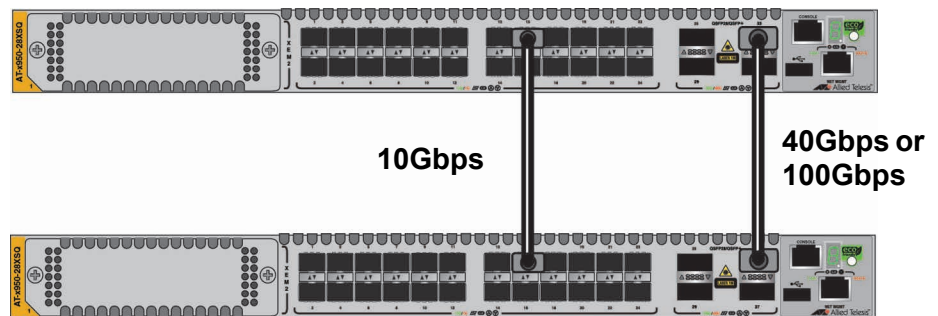

Figure 46. Unsupported Trunk with Different Port Speeds
- ❑ Trunk links must be the same speed. The example in Figure 46 is unsupported because the links are different speeds.